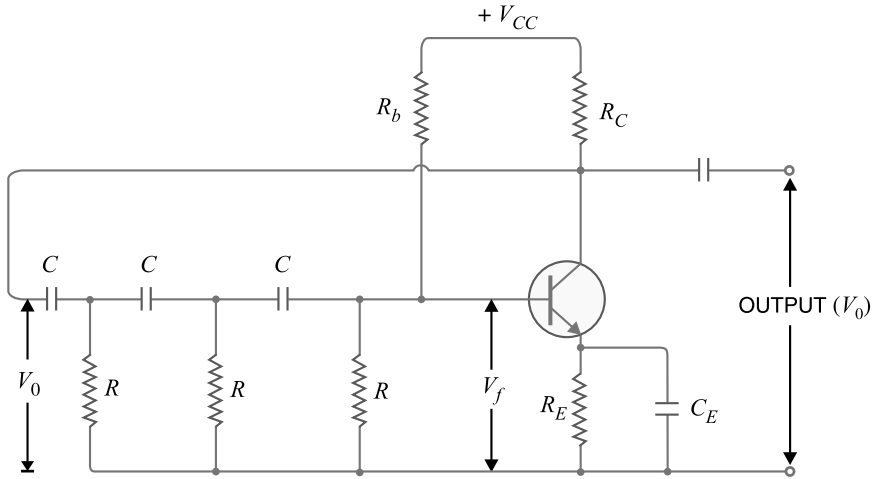

Fig. 12.21
Fig. 12.21 shows the circuit of  $RC$  phase shift oscillator. It consists of conventional single transistor amplifier and a  $RC$  phase shift network. The phase shift network consists of three identical  $RC$  sections (*i.e.* three equal-value resistors  $R$  and three equal-value capacitors  $C$ ). At some frequency  $f_0$ , the phase shift in each  $RC$  section is  $60^\circ$  so that the total phase shift produced by the  $RC$  network is  $180^\circ$ . It can be proved mathematically that the frequency of oscillations  $f_0$  is given by ;
**Feedback fraction ( $m_v$ ).** The  $RC$  network produces phase shift as well as reduces the output voltage ( $V_0$ ). It can be shown mathematically that at frequency  $f_0$ , the  $RC$  network produces a phase shift of  $180^\circ$  as well as decreases the output voltage by 29 *i.e.* the feedback voltage  $V_f = V_0/29$ . This feedback voltage  $V_f$  is applied to the input of the amplifier as shown in Fig. 12.21.
**Example 12.9.** In the phase shift oscillator shown in Fig. 12.21,  $R = 1\text{ M}\Omega$  and  $C = 68\text{ pF}$ . At what frequency does the circuit oscillate?